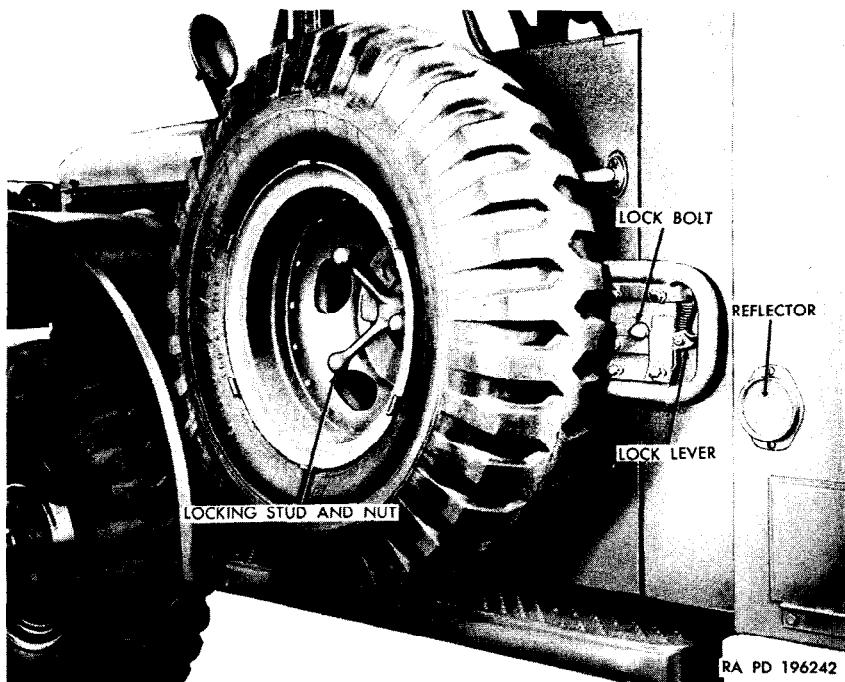

Figure 6. Hinged-type spare wheel carrier (ambulance truck M43).
- (c) *Ambulance truck M43*. The ambulance truck M43 (fig. 3) has a panel-type closed steel body consisting of the driver's compartment and the patient's compartment with a connecting partition door. The spare wheel is mounted on a carrier at the left side of the driver's compartment (fig. 6). A spotlight is mounted on the roof of the driver's compartment.